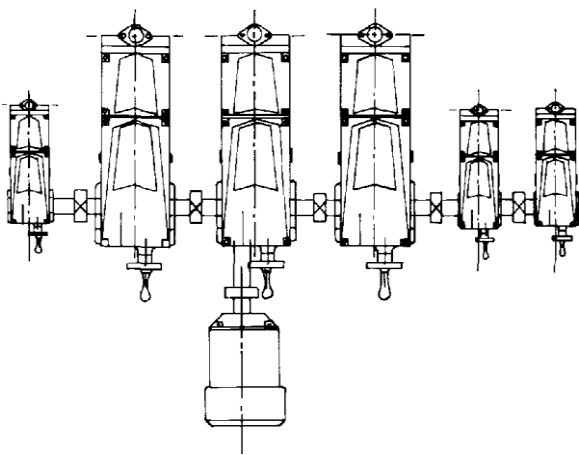
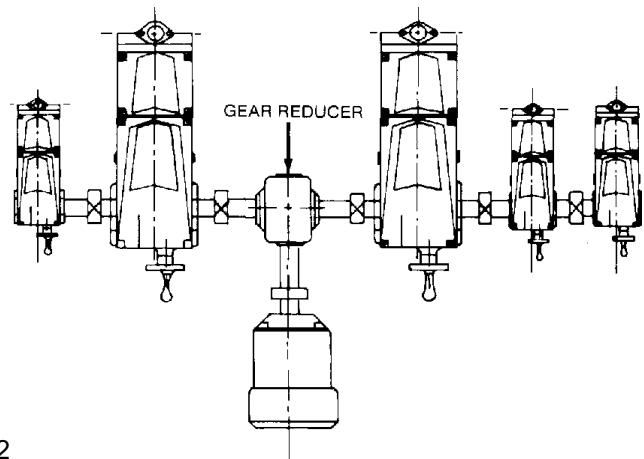

Fig. 11
Fig 12
2.4.1 Gear Ratio Assembly – Figures 11, 12
More than one pump can be driven through a single drive assembly. This is referred to as multiplexing. The pumps are mounted on a common base and one of two drive arrangements is used. In the first (Figure 11) one pump acts as a driver and powers the other pumps through extended eccentric shafts. The driven pumps contain no worm gears. In the second arrangement (Figure 12) an external gear reducer is used to drive all the pumps which again are connected through extended eccentric shafts. In this case none of the pumps contain worm gears.